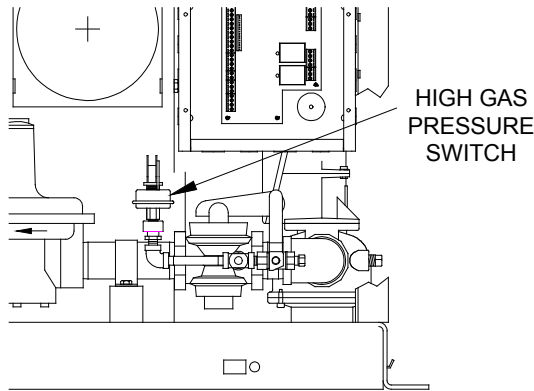

Figure 5.2
2. Remove either wire # 150 or wire #151 from the high gas pressure switch. See Fig. 5.2.